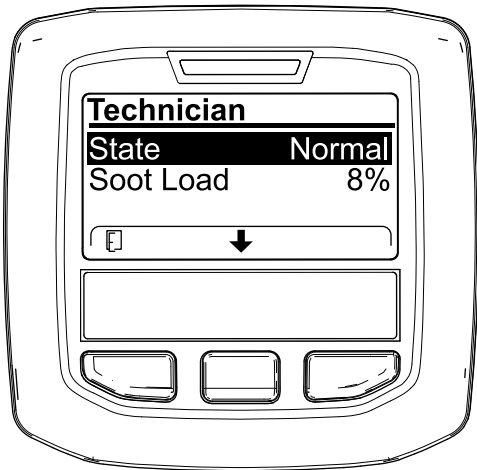

Figure 44
- Use the DPF operation table to understand the current state of DPF operation (Figure 44).